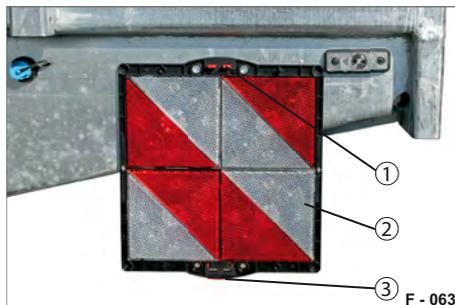

Fig. 92 Example: park warning sign
- ▶ Press the press-catch (Fig. 92/3) and fold down the top half of the warning sign.
The press-catch (Fig. 92/3) automatically engages in the lock (Fig. 92/1).